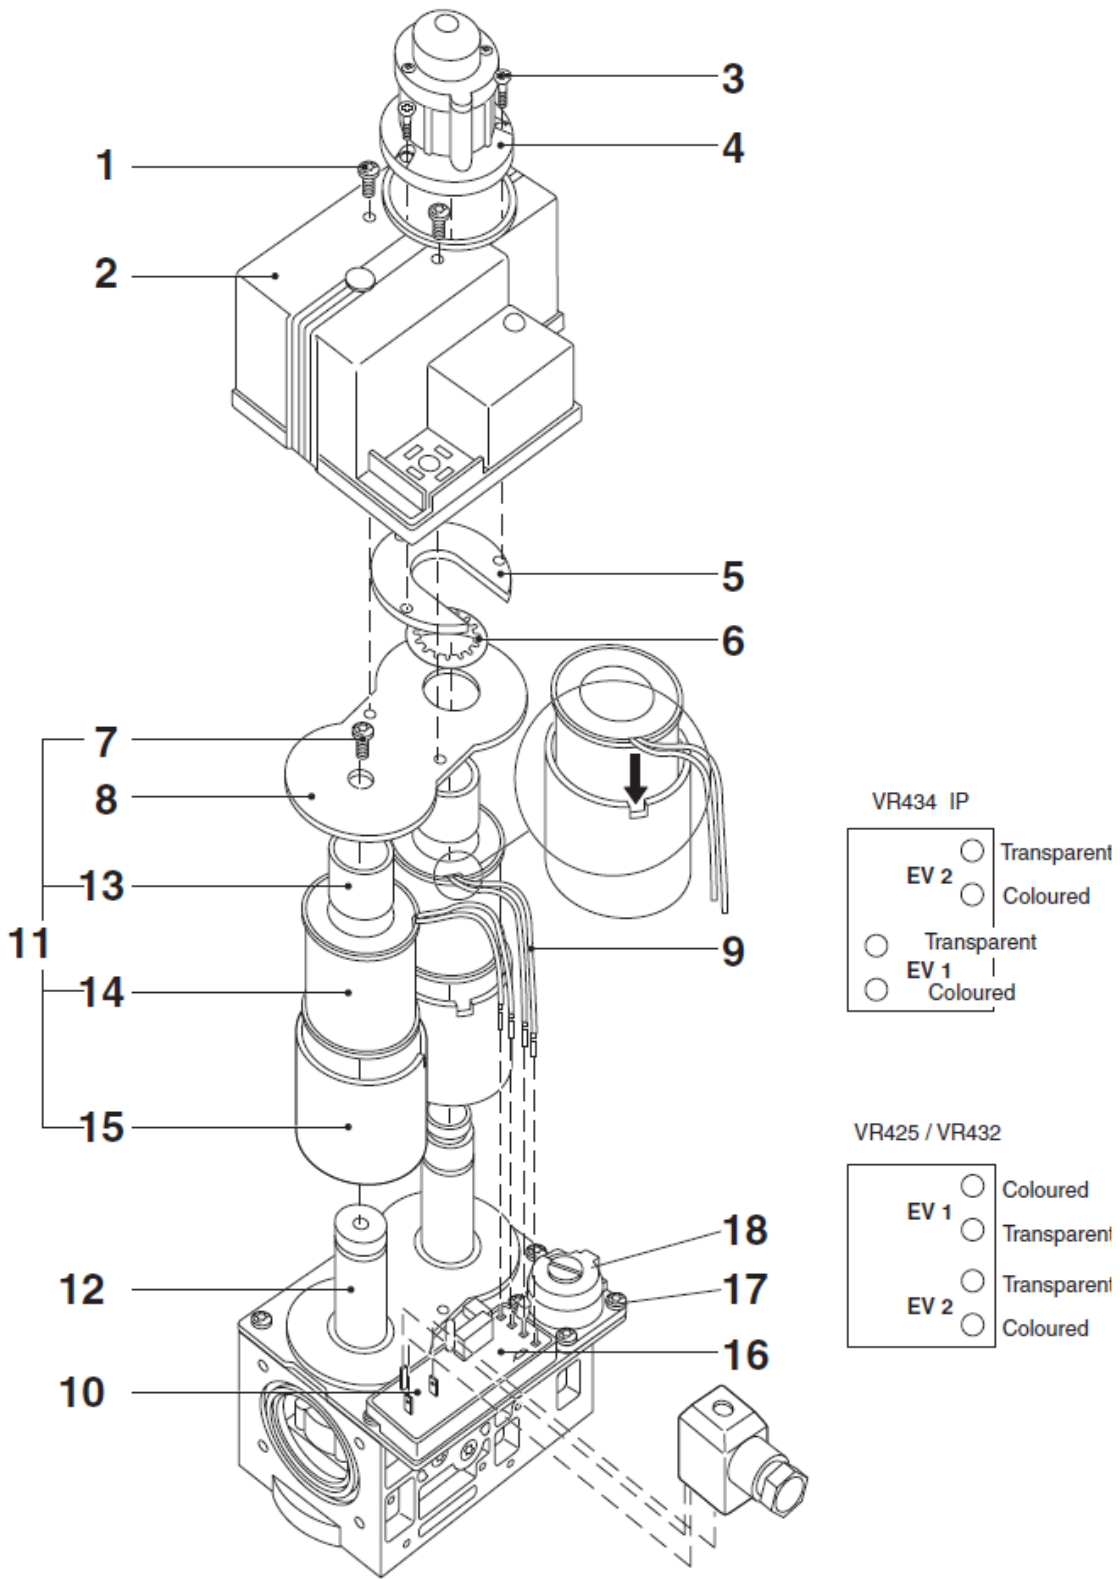

Fig. 23. Exploded view of the VR400/VR800 series
**Replacement of rectifier board (see fig. 23.)**
1. Remove screws (1) on top of cover.
2. Lift cover (2).
3. Disconnect leads coils (9) from circuit board (10).
4. remove screw (16) from printed circuit board.